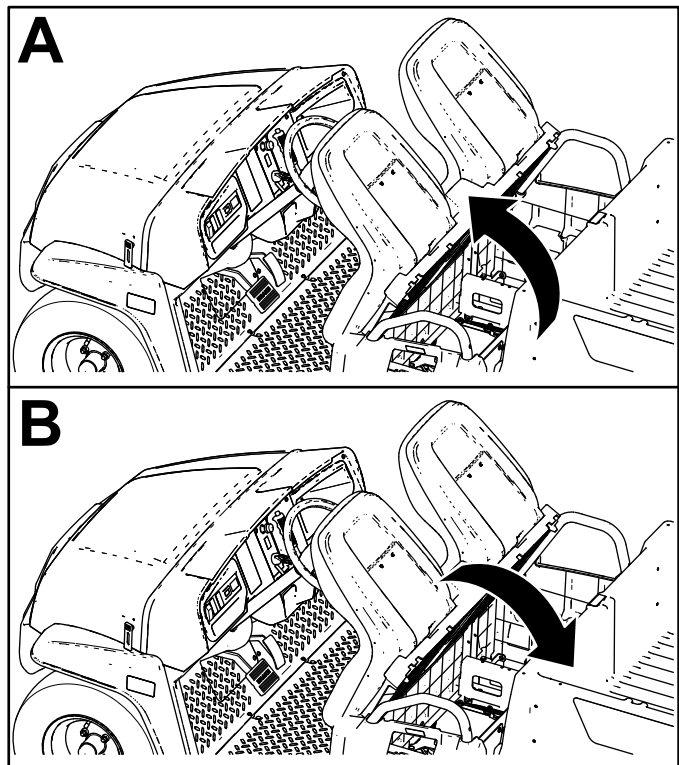

Figure 26
To raise the seat assembly, push the seat assembly forward until it rests on the steering wheel (Figure 26).
To lower the seat assembly, push the seat assembly rearward until it seats back into the original position (Figure 26).
1. Push the seat assembly forward to the raised position (Figure 26).